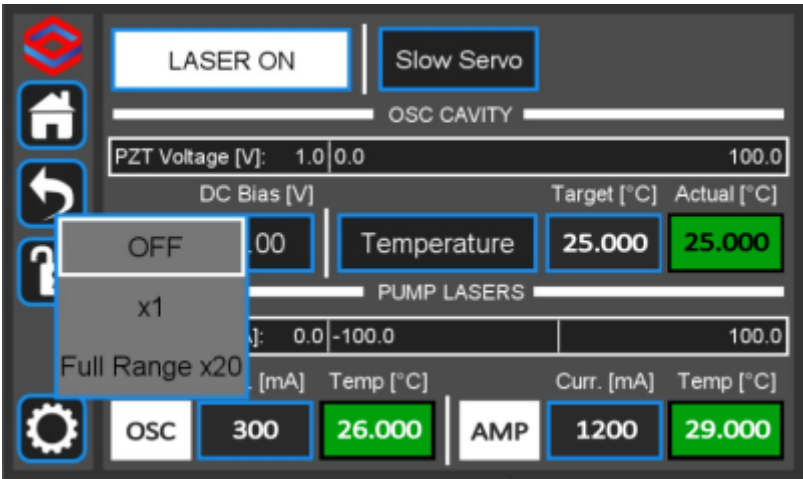

Fig. 8: Select PZT Gain
3. Touch the “PZT” touch screen button (figure 8) to bring up a drop-down menu and select “Full Range x10” to enable the PZT servo.